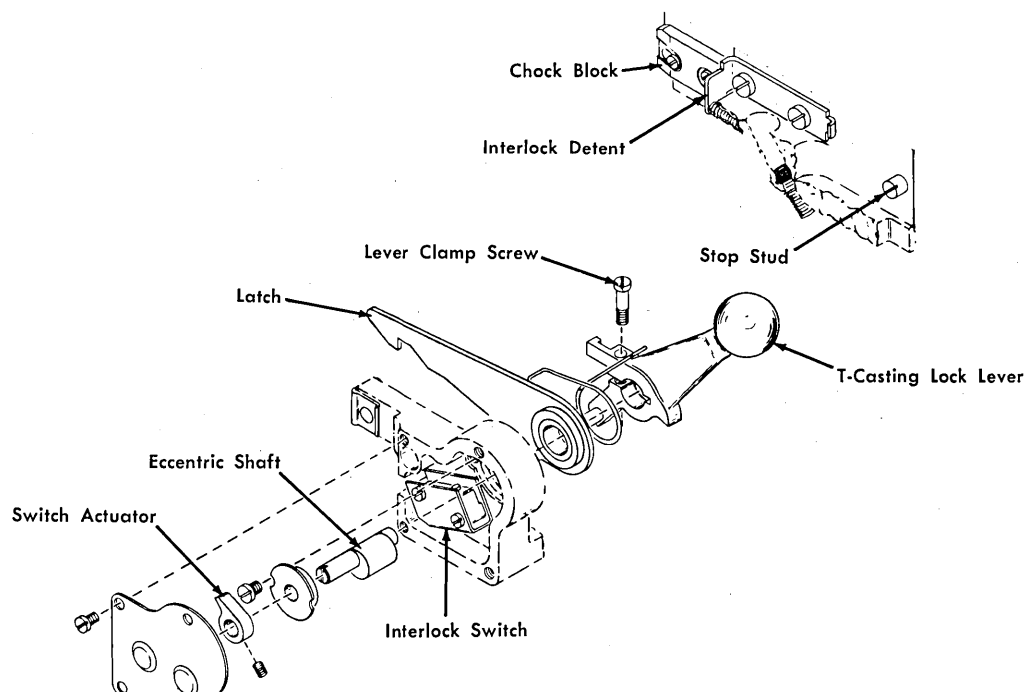

Figure 4-32. T-Casting Lock
Remove the interlock-switch cover. Check the adjustment of the T-casting latch (Figure 4-32).
- a. Loosen the chock block (see Figure 4-32) on the T-casting to obtain the vertical adjustment.